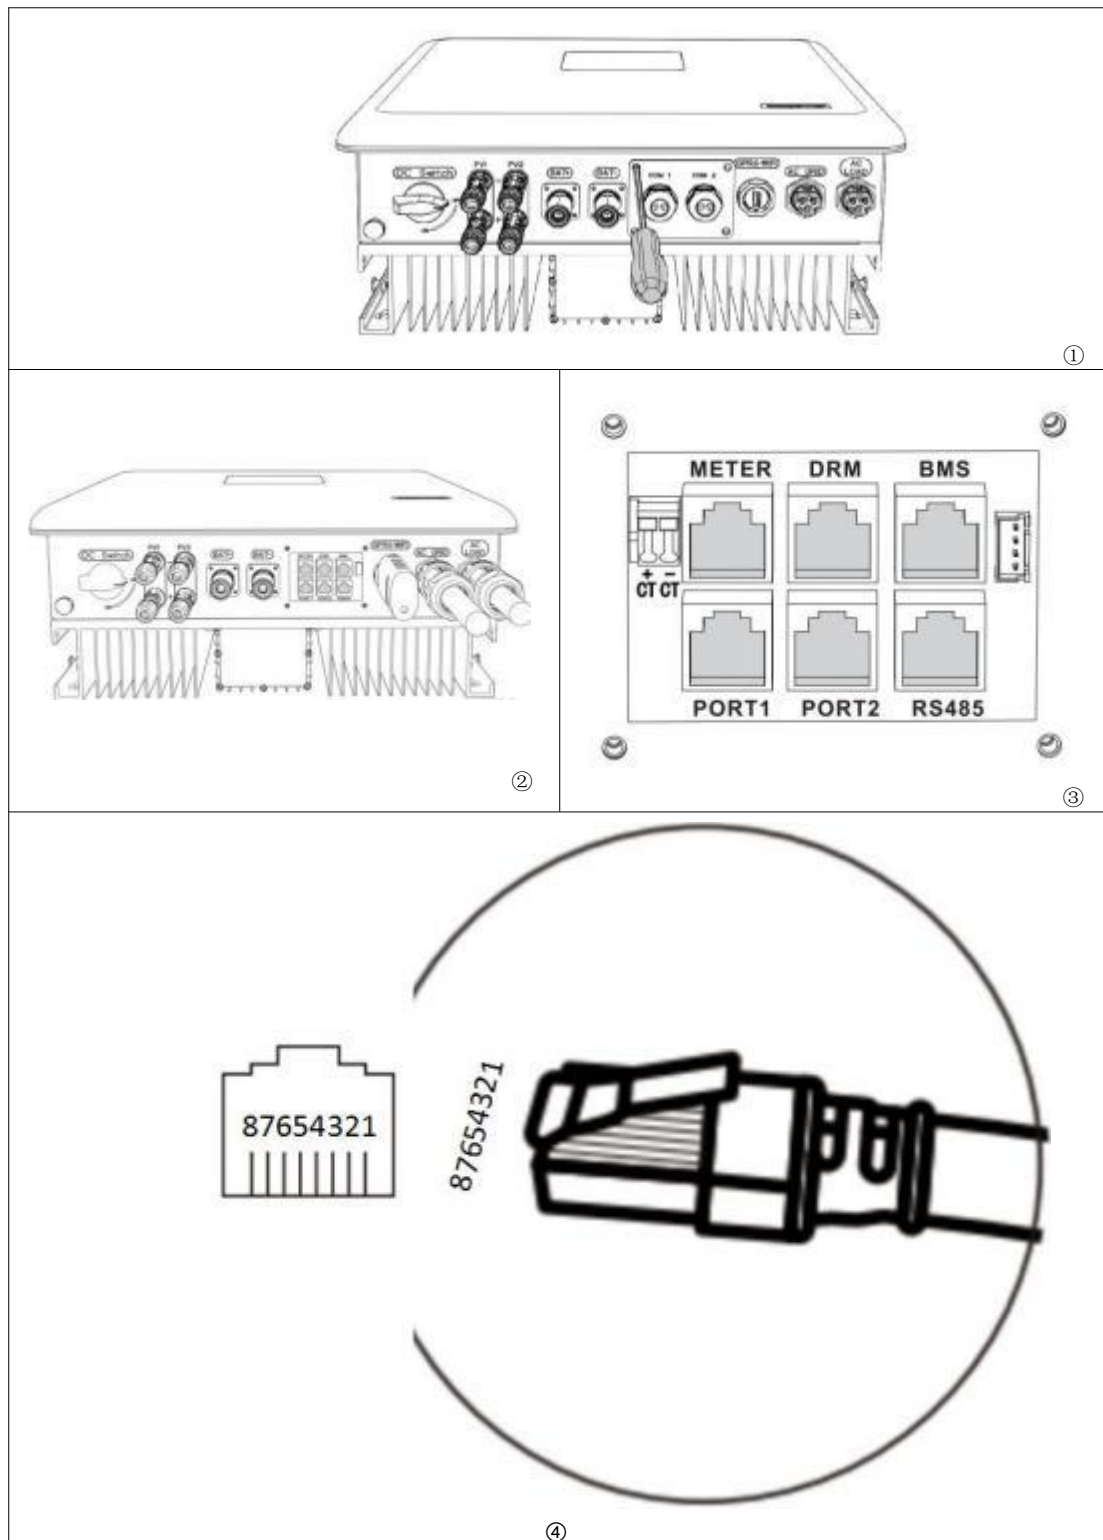

Figure 17: COM Interface
Note: In the figure17④, the tag on the left represents the pin tag in the crystal slot of the inverter, and the digital tag on the right represents the pin tag on the RJ45 Registered jack inserted into this end of the inverter.
If the user needs to use the CT alone, please connect the CT to METER PIN7 and PIN8 via the RJ45 crystal header. Alternatively, connect the white wire of CT to CT+ and the black wire of CT to CT - through dry contacts (see Figure 17 ③).